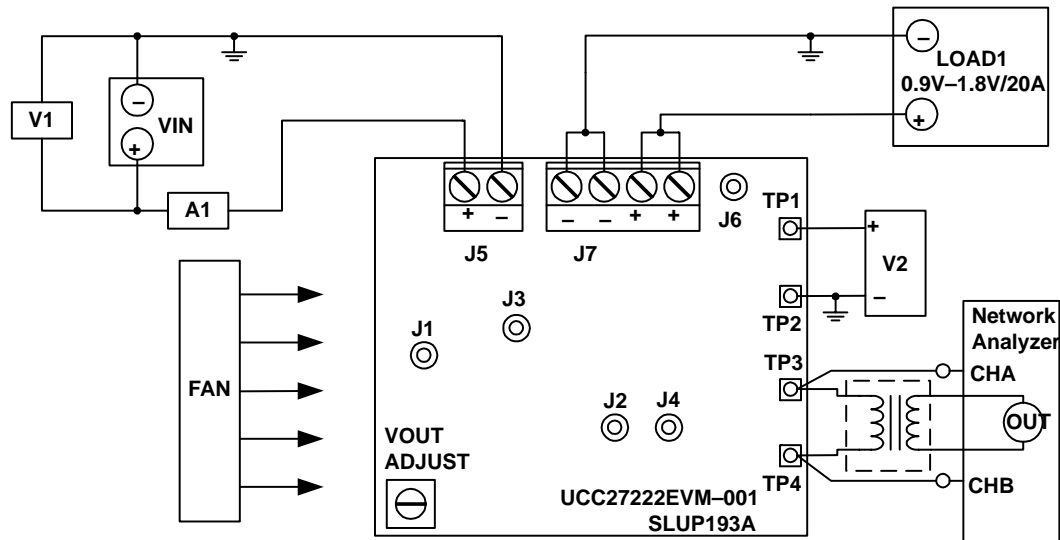
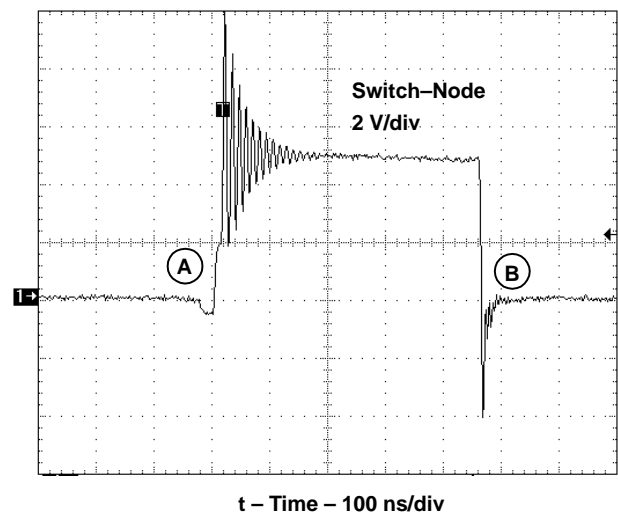
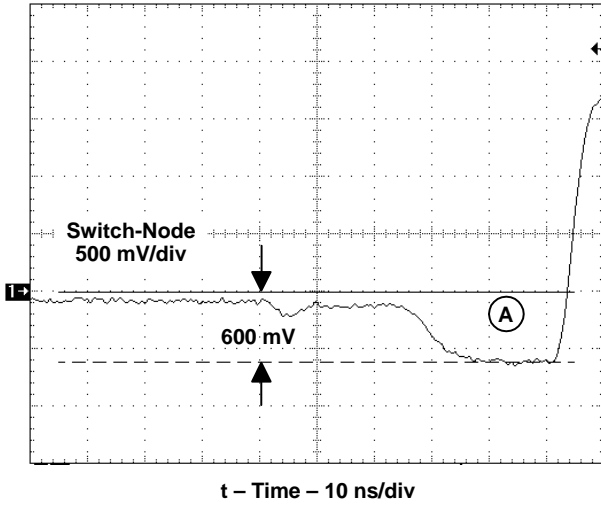
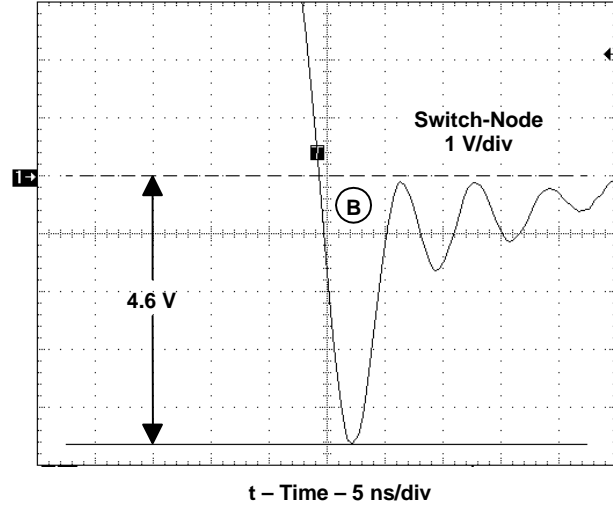

Figure 3. Recommended EVM Test Configuration
Figure 6. Switch-Node Voltage
Figure 7. Close Up: Switch-Node A
Figure 8. Close Up: Switch-Node B
Shown in Figure 3 is the basic test set up recommended to evaluate the UCC27222EVM-001. Please note that although the return for J5 is the same as the J7 return, the VIN and LOAD1 connections should remain separate as shown below.
The input voltage shall be a variable DC source capable of supplying between 0 Vdc and 6 Vdc at no less than 10 Adc, and connected to J5 as shown in figure 3. For fault protection to the EVM, good common practice is to limit the source current to no more then $9 A_{DC}$ for a 5-V input. A dc ammeter, A1 should also be inserted between VIN and J5 as shown in Figure 2.
A network analyzer can be connected directly to TP3 and TP4 as shown in Figure 3. The UCC27222EVM-001 provides a $51.1\text{-}\Omega$ resistor (R14) between the output and the voltage feedback to allow easy non-invasive measurement of the control to output loop response.
2. Prior to connecting the DC input source, V_{IN} , it is advisable to limit the source current from V_{IN} to 9-A maximum. Connect the ammeter A1 (0-A to 10-A range) between V_{IN} and J5 as shown in Figure 3. Make sure V_{IN} is initially set to 0 V.
3. Connect LOAD1 to J7 as shown in Figure 3. Set LOAD1 to constant current mode to sink 0 A_{DC} before V_{IN} is applied.
4. Connect the voltmeter, V2 to TP1 and TP2 as shown in Figure 3.
J4 of figure 3 allows convenient probing of the switch-node voltage, shown in Figure 6. The ringing shown on the switch-node voltage waveform is a result of component package inductance and parasitic inductance between the UCC27222 driver device and the high-speed switching MOSFETs, and is not a characteristic of Predictive Gate Drive™ technology. Predictive Gate Drive™ technology minimizes body-diode conduction as highlighted at points A and B of Figure 6. Figure 7 and Figure 8 show close up views of points A and B shown in Figure 6. Figure 8 shows some inductive ringing below the ground reference; however, it is not clamped by the body-diode of Q3.